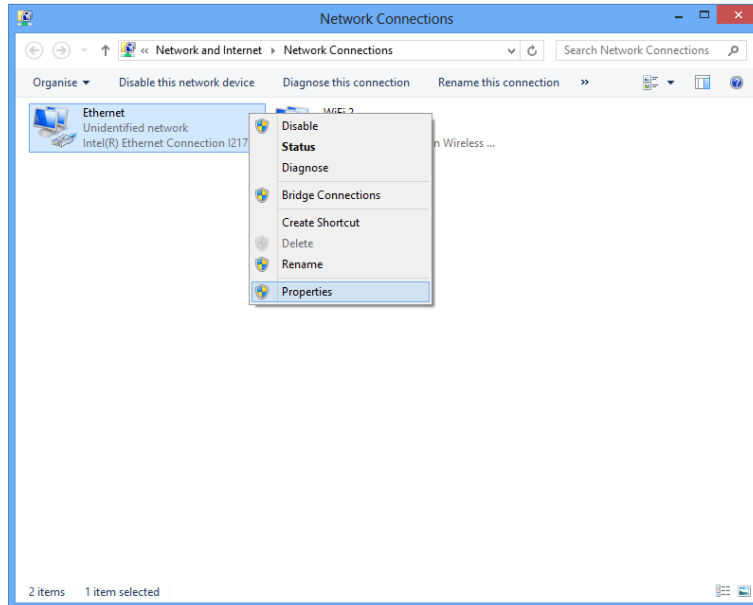

Fig. 10.3: Property window of the Ethernet network.
- c. Right click on the Ethernet icon and select "Properties", as in Fig. 10.3.